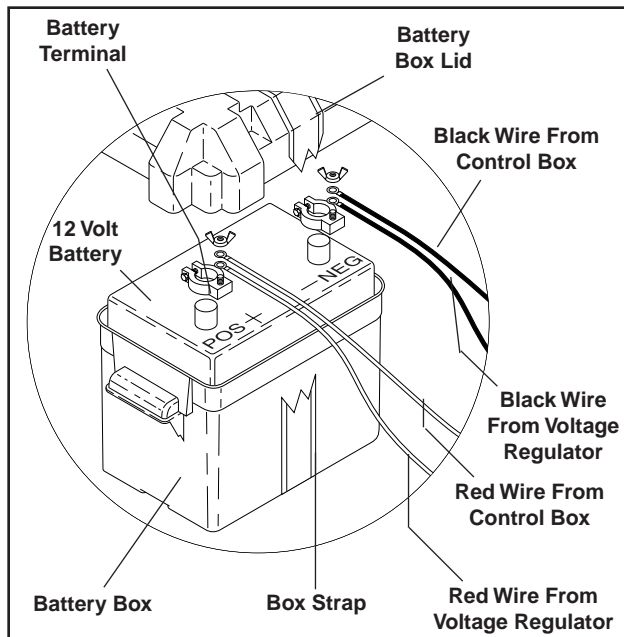

Figure 4 - Battery Installations/Connections
2. Install the provided battery terminals as shown in **Figure 4**.
3. To reduce the possibility of sparking attach the wires to the battery in the following order. Refer to **Figure 4**. First attach the red wire from the voltage regulator and the red wire from the control box to the positive "+" terminal of battery. Next, attach the black wire from the voltage regulator and the black wire from the control box to the negative "-" terminal of the battery. To disconnect the battery remove the wires in the opposite order as installed. Install battery box cover and fasten in place.